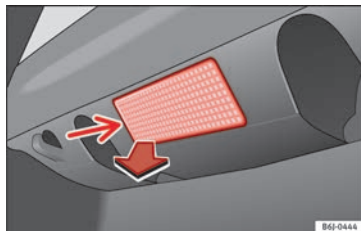

Fig. 102 Boot light.
- Extract the bulb by pressing on its inside edge -arrow- using the flat side of a screwdriver » Fig. 102.